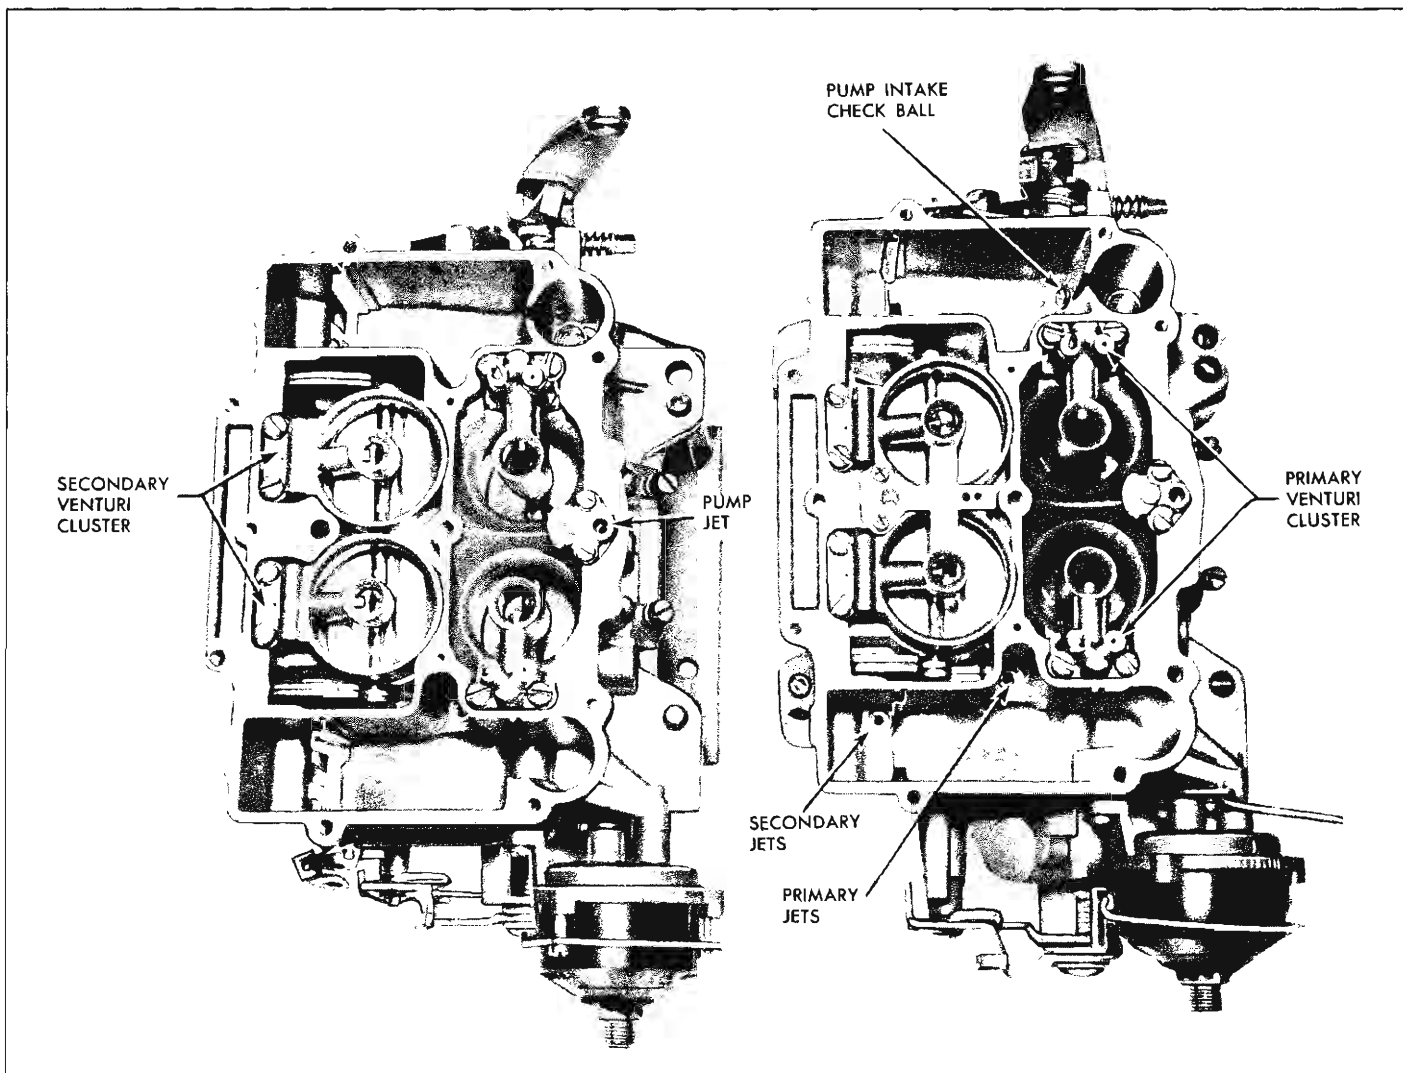

Fig. 29—Body Components
5. Install pump intake check ball and ball seat assembly with a new gasket (fig. 29). Install primary and secondary metering jets and tighten securely.